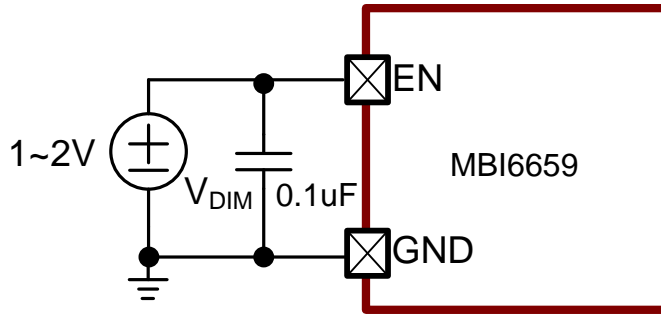

Fig. 9 Analog dimming by external DC voltage
Users can apply DC voltage directly to EN for modulating LED current. The result is shown in the following figures. The analog dimming function can be achieved easily by applying an external DC voltage (VDIM) at EN pin. To prevent the noise interference, a 0.1uF ceramic capacitor parallel with EN pin is recommended, as shown in Fig. 9. The relationship between ILED,ADIM and VDIM is shown in (2), where ILED is determined by RCSN.